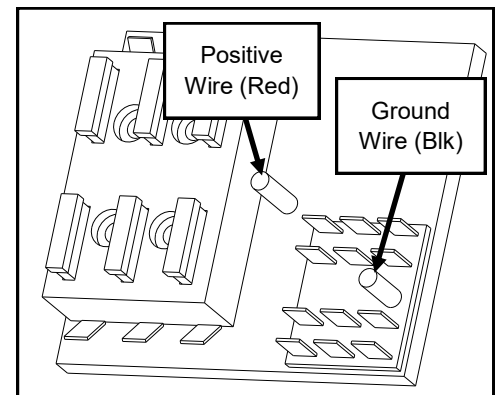

Fig. 6a
- A. Per figure 6a, connect the small ring terminals to the fuse block with #10-32 Keps nuts from hardware kit.